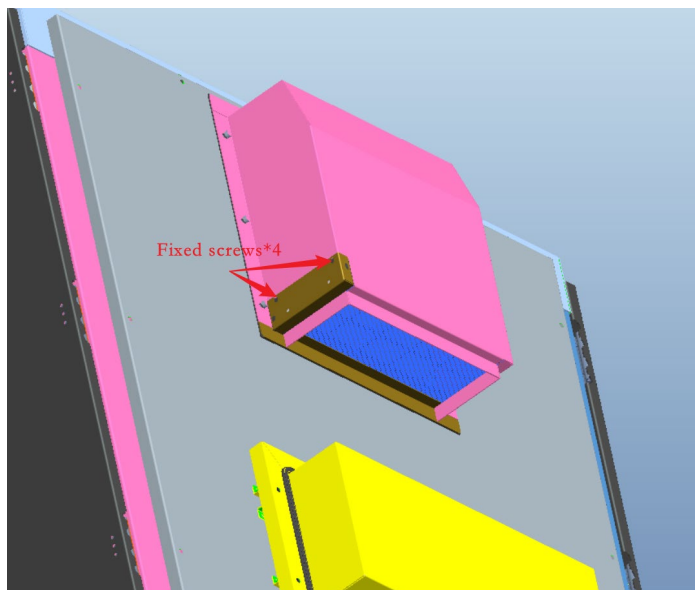

Figure 4-2 Schematic diagram of dismantling dustproof cotton structural components-1
- Remove the 4 screws of the dust-proof cotton fixing structural parts at the air outlet of the DC&AC LV Panel cooling fan, and then directly pull out the dust-proof cotton structural parts, as shown in Figure 4-2 below.